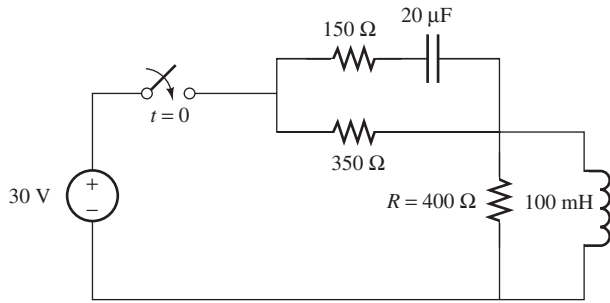

FIGURE P5.35 Circuit for Problem 5.35.
- 5.35 (A)* The switch closes at $t = 0$. Find the current flow through the resistor R at both $t = 0$ and $t = \infty$, and $i_L(\infty)$ for the circuit shown in Figure P5.35.